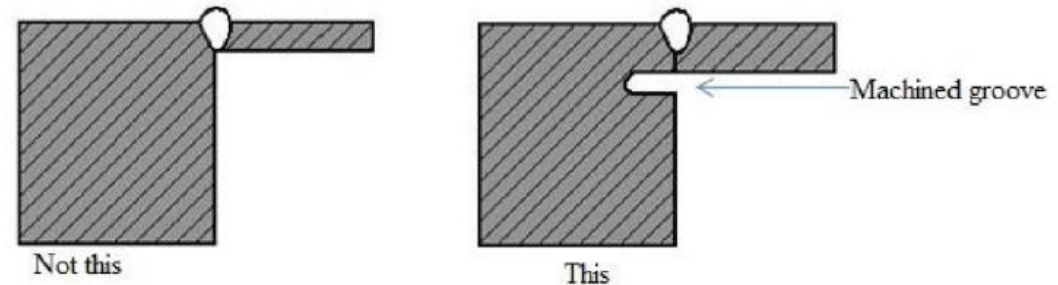

Figure 3.7.9: Use of a machined groove to equalize wall thickness to reduce distortion.
- For sections of unequal thickness to be welded, distortion can be reduced by equalizing wall thickness at the joint, Figure 3.7.9.